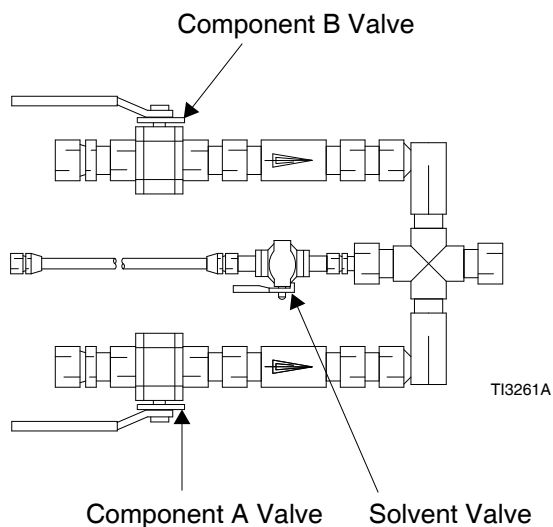

FIG. 23
1. Close the component A and component B valves on the mix chamber assembly. See FIG. 23.